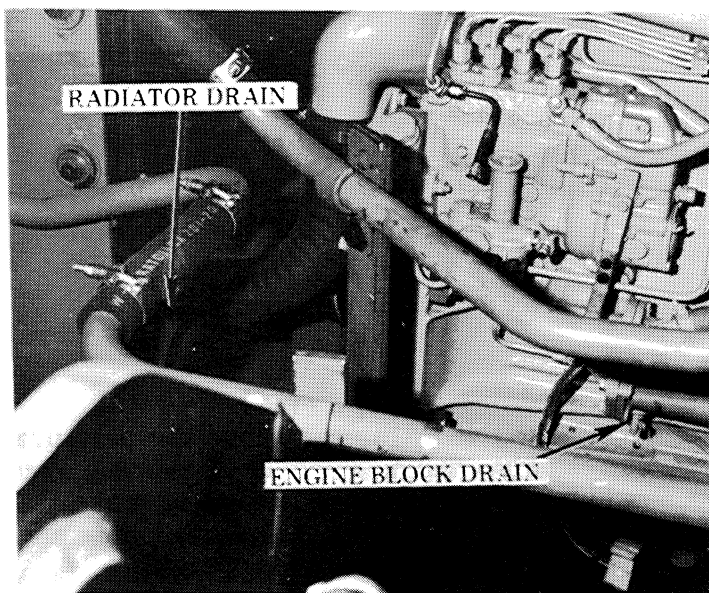

Figure 27
1. While the coolant is still hot, open the radiator drain valve and the engine block drain valve. See Figure 27. Drain all coolant and close the valves.